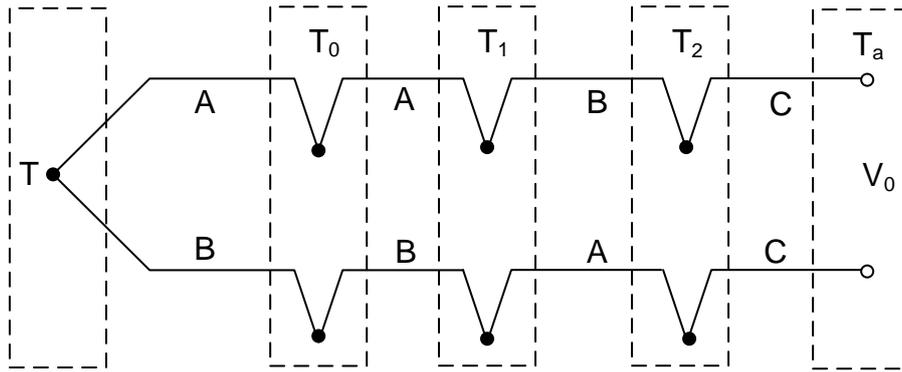

Figure 8: Simulate reference junction at 0°C.
- (5p) (d) Figure 8 shows a circuit in which three types of wires (A, B, C) are combined into several thermocouples with three intermediate temperatures T_0 , T_1 , and T_2 and a temperature T at the measurement junction. What relation must T_0 , T_1 and T_2 have such that the output voltage only depends on T ?